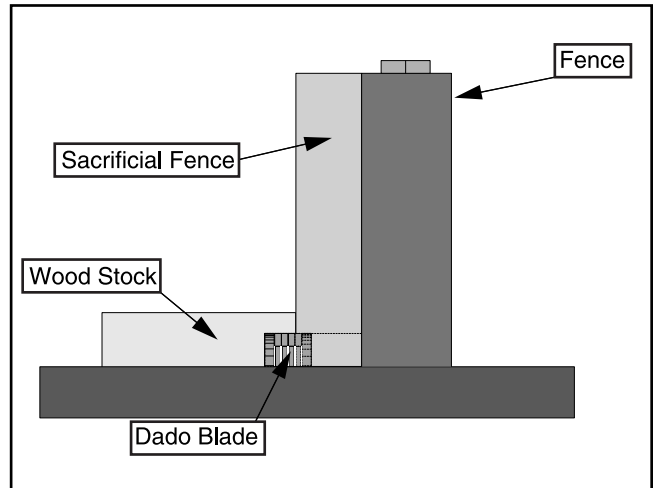

Figure 55. Rabbet cutting.
2. If rabbeting along the long length of your workpiece, adjust the distance between the fence and the workpiece to suit your needs as shown in **Figure 55**.